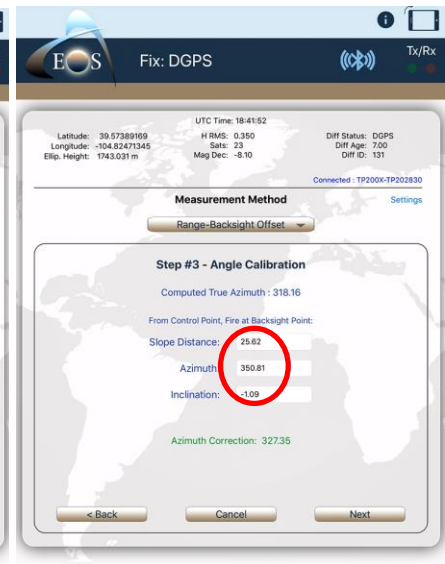

Figure 12B
- 12B. **Step #3:** Aim and fire the laser system at the Backsight point, confirm values for Slope Distance, Azimuth and Inclination come through (Figure 12B) and tap **Next**